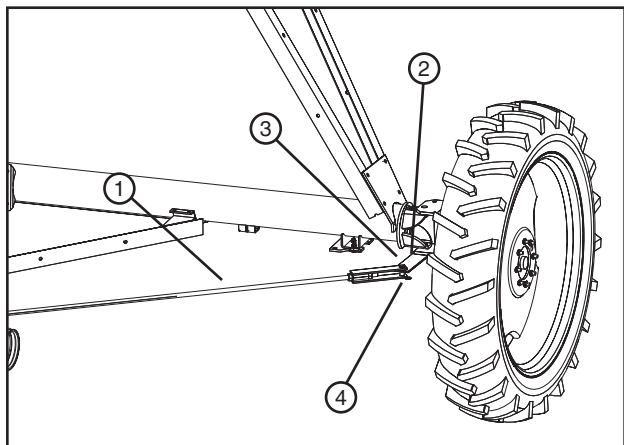

Figure 84-2 1. Tie Rod 2. Steering Arm 3. Clevis Pin 4. Hair Pin
2. Connect end of tie rod to steering arm with one clevis pin and hair pin. See figure 84-2.